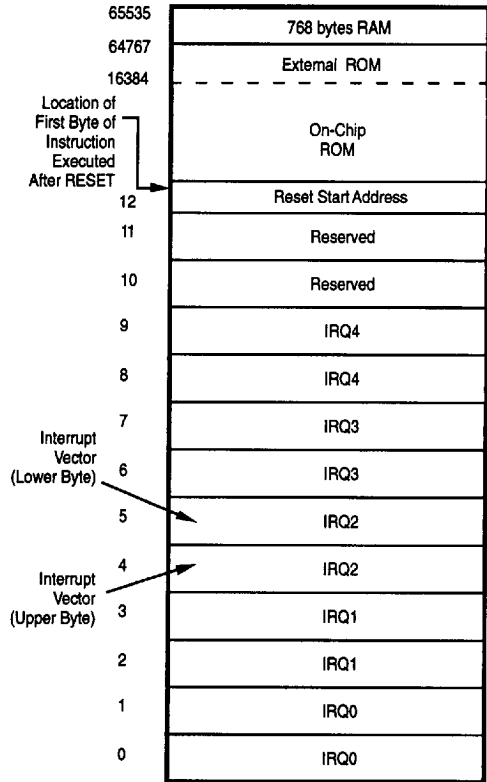

Figure 15. Program Memory Map
**Program Memory.** The Z86L73/74/77 addresses up to 24K/32 Kbytes of internal program memory, with the remainder being external memory (Figure 15). The first 12 bytes of program memory are reserved for the interrupt vectors. These locations contain five 16-bit vectors that correspond to the five available interrupts. Addresses of 24K/32K consist of on-chip mask-programmed ROM. At addresses 32K and greater, the Z86L73/L74 executes external program memory fetches (refer to external memory timing specifications).